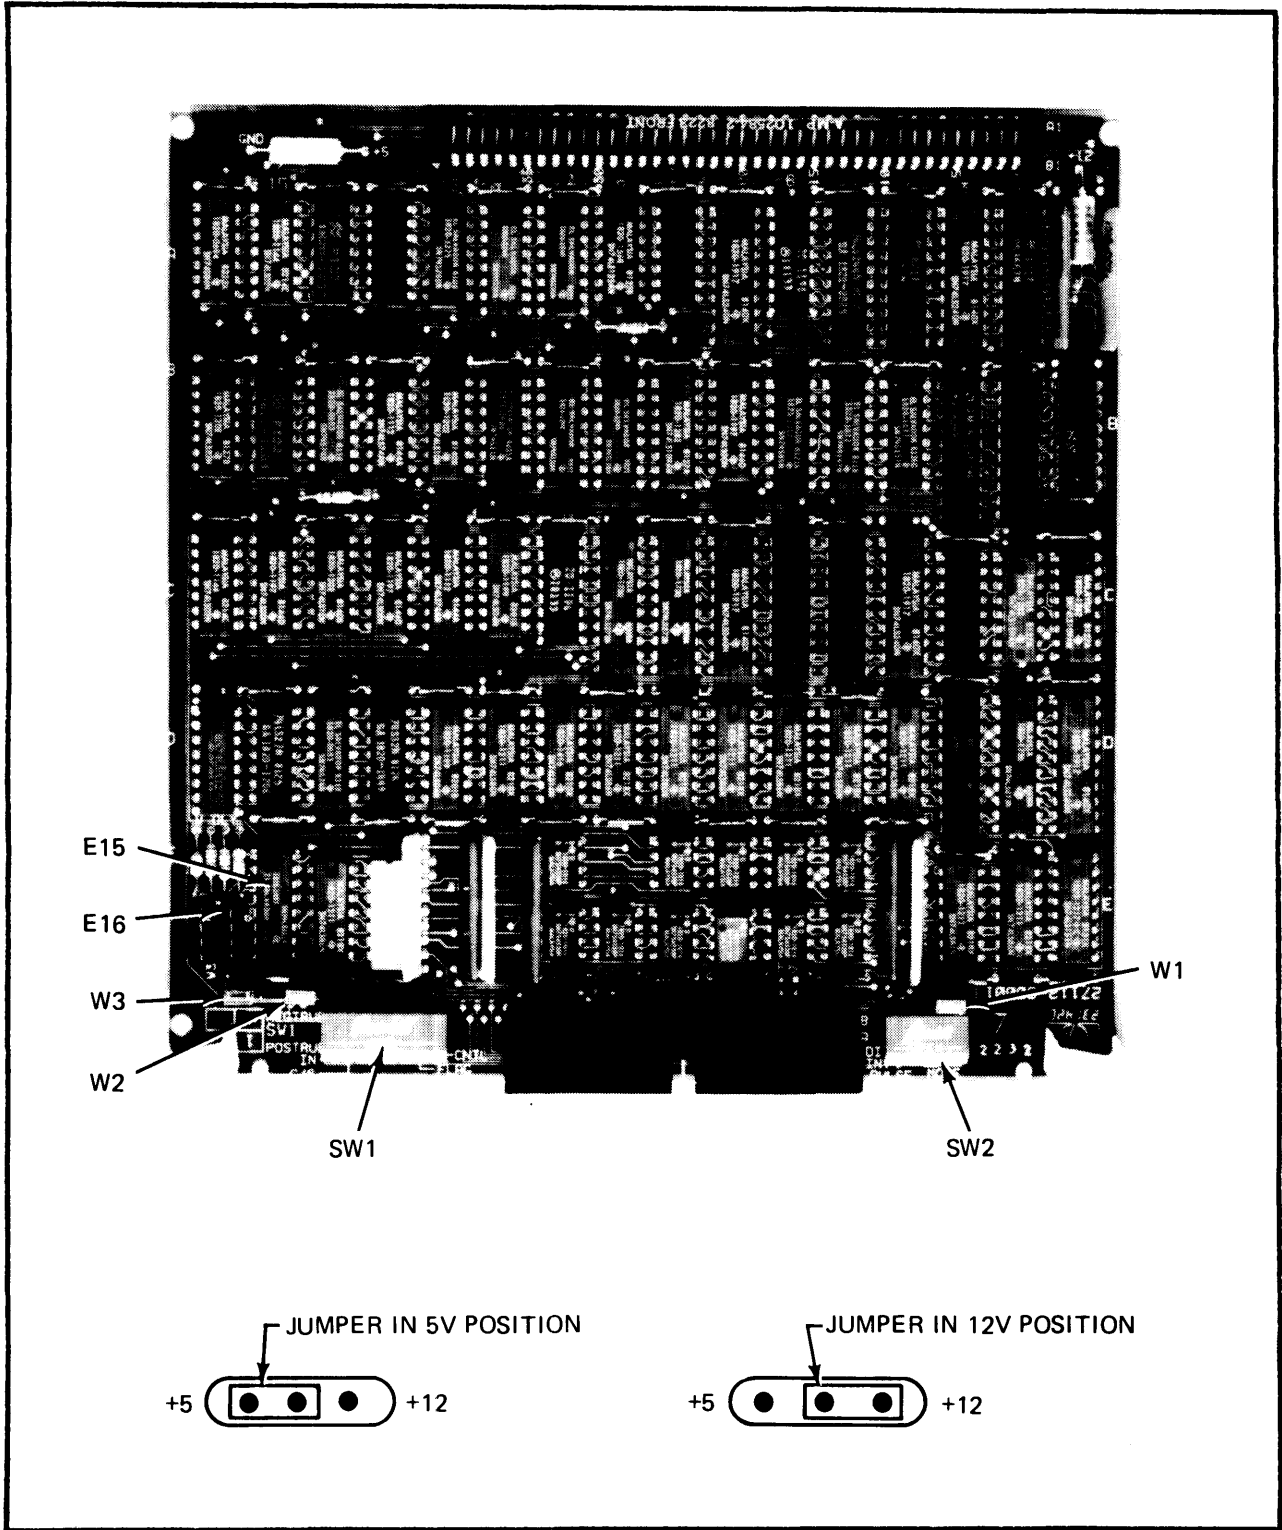

Figure 1. Switch and Jumper Locations
2. Install jumpers in W1, W2, and W3, depending on whether 5-volt or 12-volt logic levels are to be used. The locations of W1, W2, and W3, and the positions of the jumpers for +5-volt or +12-volt operation are shown in figure 1.
4. There are two one-shots (E15, see figure 1) on the GPIO card which generate the write delay and the internal handshake delay. The write delay one-shot provides approximately 100 nsec for the output data to settle. When extra long cables are used, or when the peripheral device requires additional settling time for the data, the delay can be increased by adding a capacitor between pins 1 and 4 of the socket at E16 (see figure 1 for location of E16).
The internal delay one-shot provides a delay of approximately 3 usec between the assertion of PCNTL and the assertion of FLAG. The delay can be increased by adding a capacitor between pins 5 and 8 of the socket at E16 (see figure 1 for location of E16).